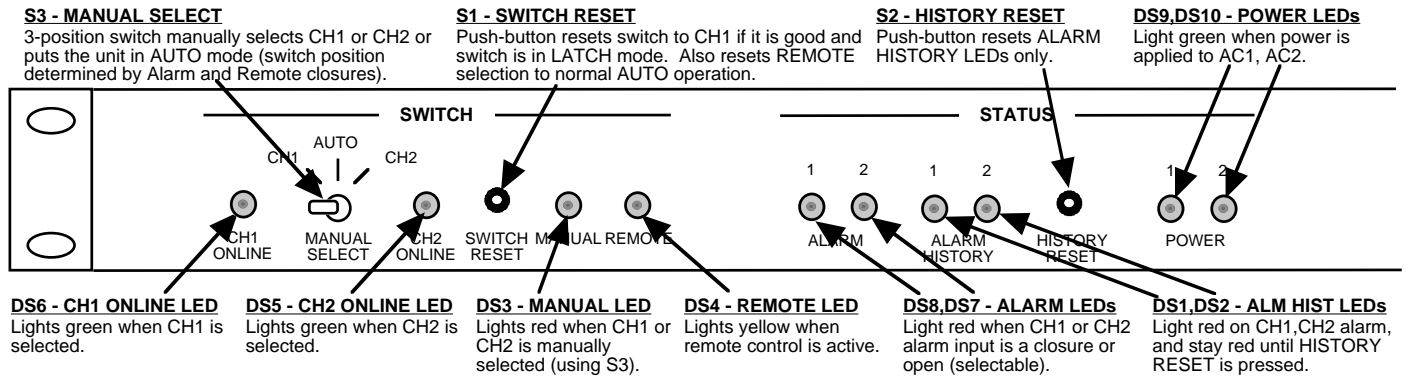

FIGURE 2.3 1582-652 Front Panel Controls and Indicators
Figure 2.3 shows the front panel controls and indicators.
1. Set the on board controls as desired (Tables 2.2, 2.3, Figure 2.3).
The following gives the switch mode settings of the on board controls that can be changed in the field with JP1, JP2, JP3, JP4; S4. (Figure 2.3). All shown with external **alarm = ground**.